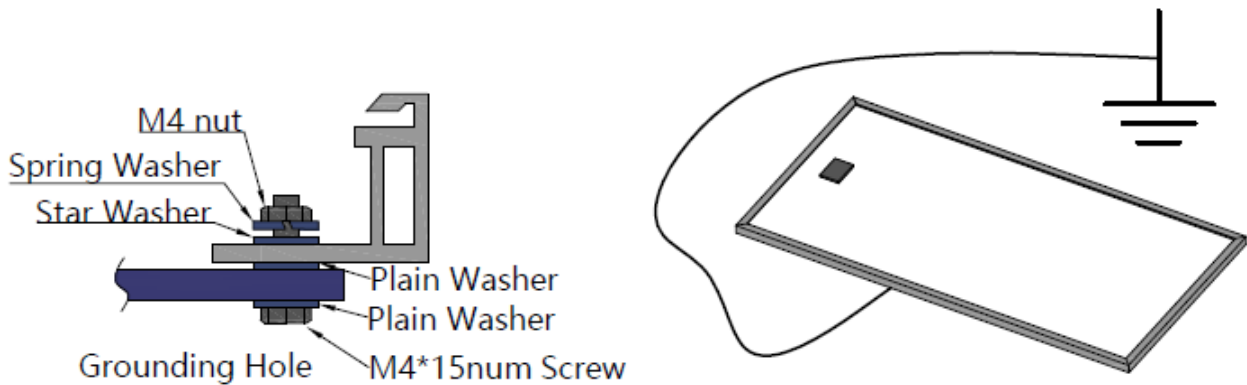

Figure 8: The graph of Grounding
- e) All module frames and mounting racks must be properly grounded in accordance with local and national electrical codes. Attach the equipment grounding conductor to the module frame using the hole and hardware provided. Note that a stainless steel star washer is used between the ground wire and module frame (see Figure 8 below).This washer is used to avoid corrosion due to dissimilar metals. Tighten the screw securely.